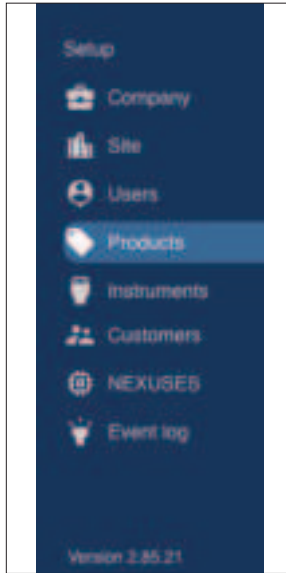

Figure 8 SKALA Main Menu
2. Select Products from the SKALA Main menu to open the Product groups page (Figure 8).